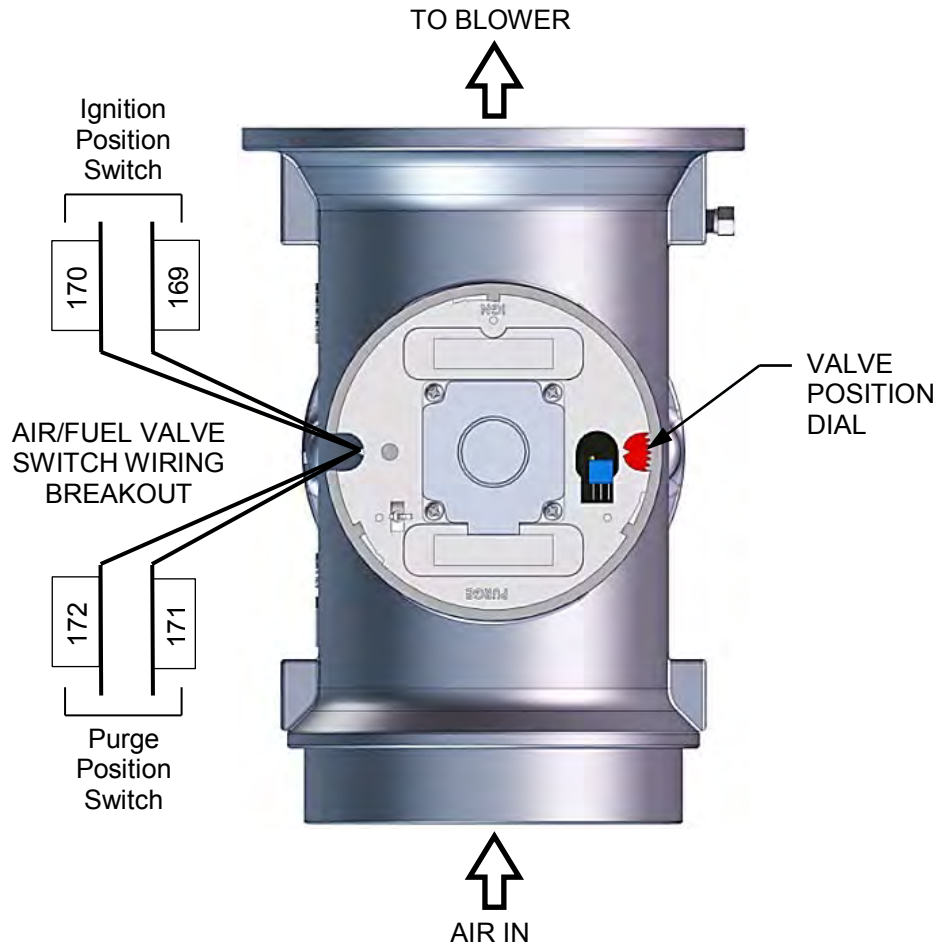

Figure 6-7: Air/Fuel Valve Purge and Ignition Switch Locations
4. Remove one of the two wires (#169 or #170) from the Ignition Switch (Figure 6-7).